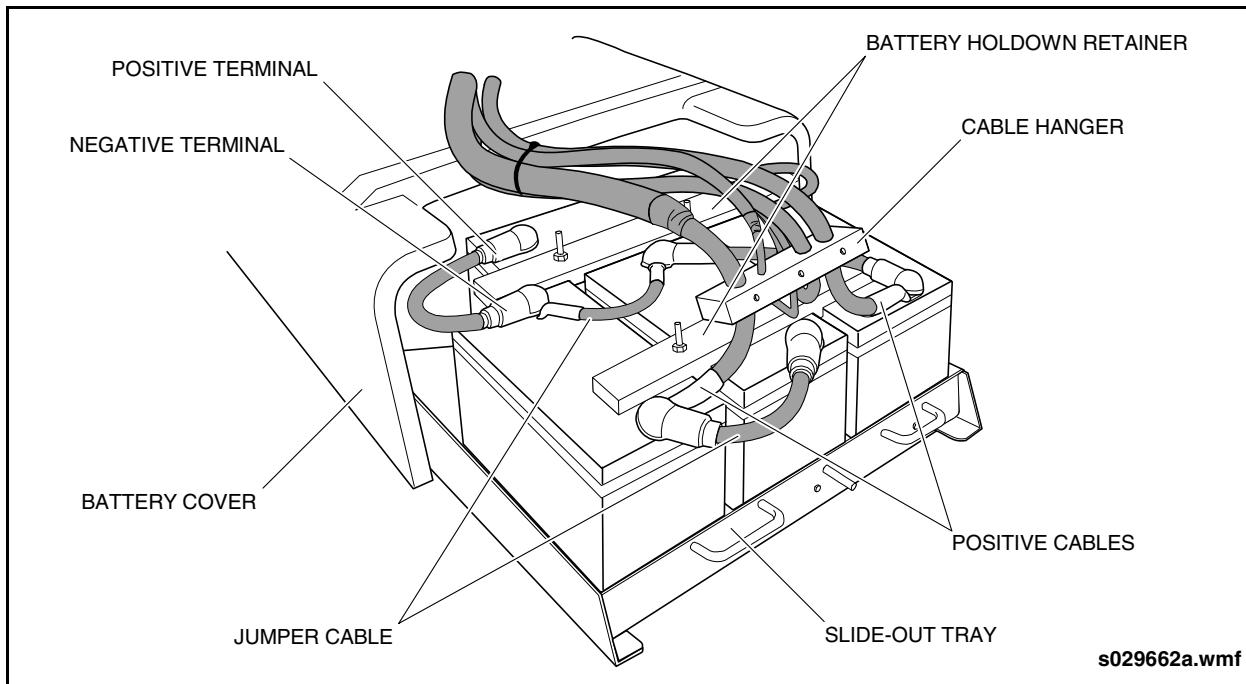

Fig. PM-23: Battery Tray
- Check external condition of battery and battery cables. Tighten hold-down nuts to prevent batteries from shaking but not so tight as to strain battery case. See "Fig. PM-23: Battery Tray" on page 55.